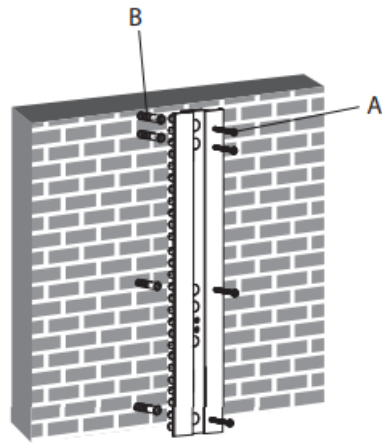

fig.1.2
- Pre-drill these holes with an 8 mm masonry bit and depth is at least 50mm. Insert a Concrete Anchor(B) into each of these holes. Attach the wall plate to the wall using two screws(A), make sure that the wall plate is level as shown in fig.1.2.